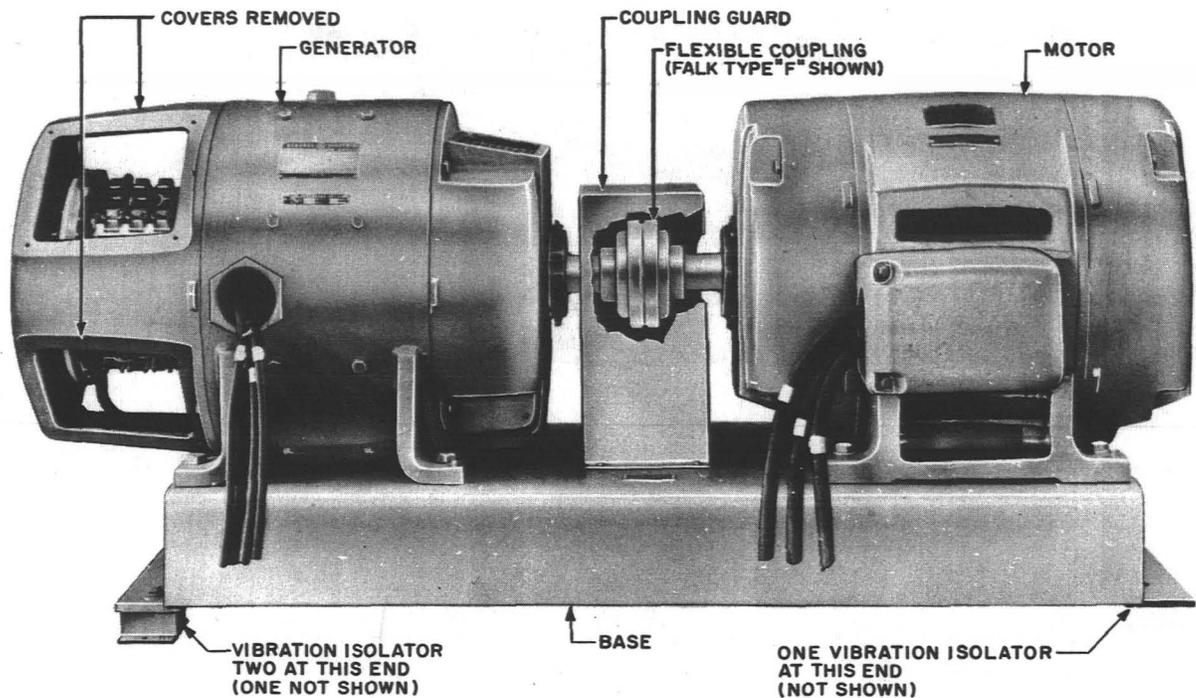

Fig. 1 - Motor-Generator — KS-15839, List 5 Shown
2.01 The figures included in this part show the various replacement parts in their proper relation to other parts of the apparatus together with their corresponding names, Fig. 1 to 3.